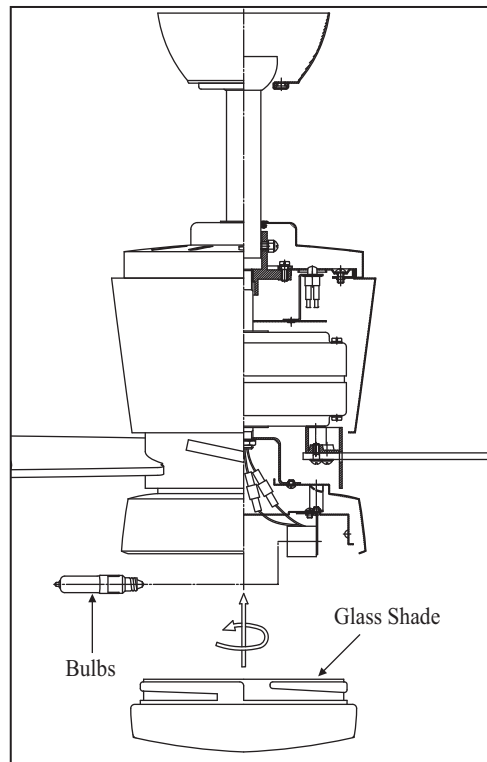

Figure 18
4. Install 100 watt JD type halogen bulb to the light socket. (Fig. 18)
5. Raise glass shade up against the mounting plate and secure it to fan by turning glass counterclockwise until snug. DO NOT OVERTIGHTEN. (Fig. 18)